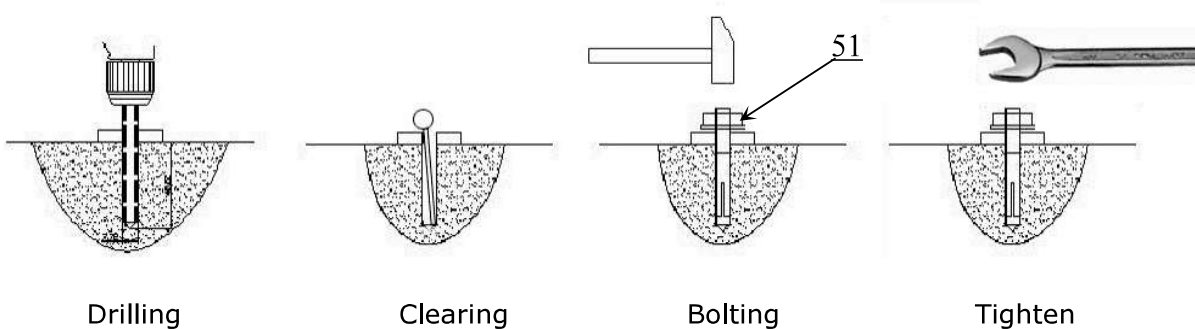

Fig. 19
3. Fix the control cabinet anchor bolts (M10×100mm) (**See Fig. 19**).